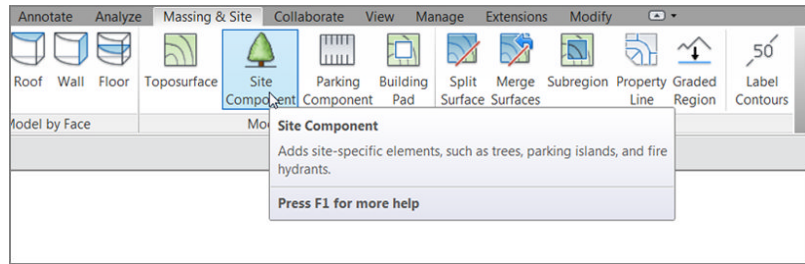

FIGURE 18.12: The Site Component button
6. On the Massing & Site tab, click the Site Component button, as shown in Figure 18.12.